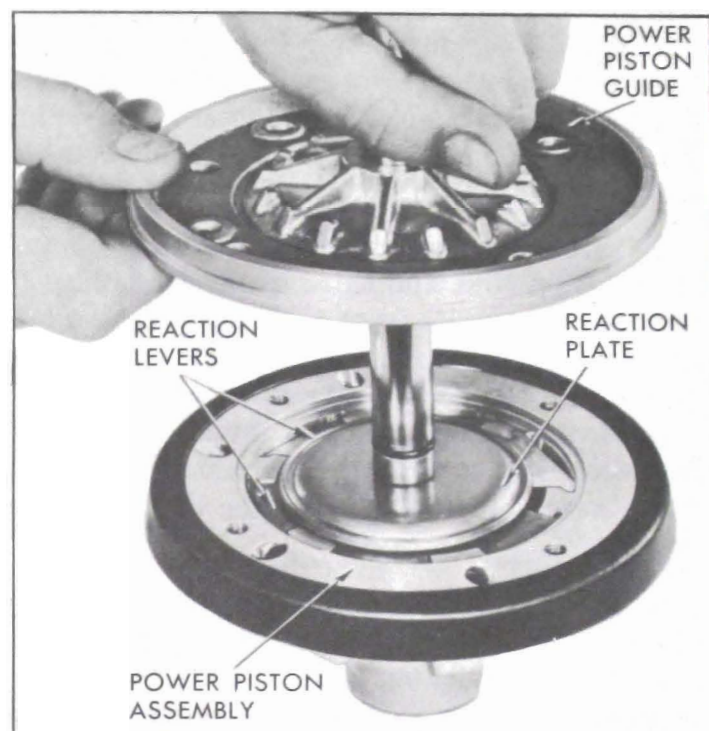

Figure 9-26—Installing Piston Guide
13. Lubricate center hole of power piston guide with silicone grease. Holding hydraulic piston vertically with reaction plate down, start piston guide ribbed side up onto hydraulic piston. Set large reaction plate square and centered over reaction levers, then lower to hold levers in position while compressing spring. In this step, watch to see that wide end of a reaction lever does not jump out of its seat. See figure 9-26. Hold pressure while sliding piston guide down over hydraulic piston for installation of screws. Note that reaction levers must hold position, piston guide must clamp leather cup while expander and wick hold position under cup, and all holes must align—all at the same time. When correct, install screws. **NOTE:** *To assure that reaction levers are all properly seated, check to see that hydraulic piston has a slight endwise movement in power piston assembly.*